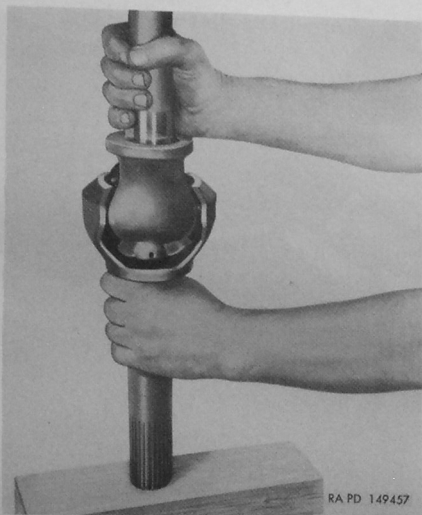

Figure 114. Dislodging universal joint center ball pin.
d. Dislodge Center Ball Pin.—Remove assembly from vise and hold in a vertical position with outer shaft (A) down. Bounce the outer shaft on a block of wood (fig. 114) to dislodge center ball pin (D), allowing the pin to drop downward in drilled passage in outer shaft.